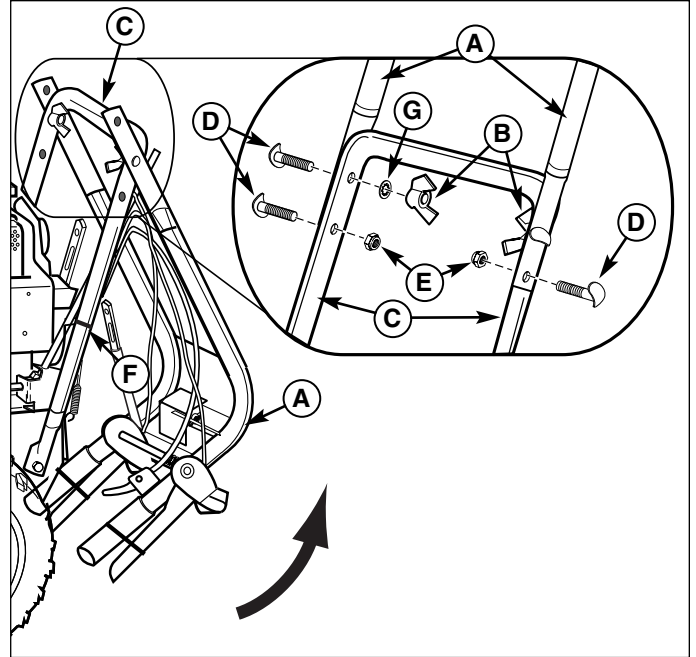

Figure 4. Un Folding Handle Bars (Some Models)
Folding handles (if equipped) are shipped in the down position and need to be rotated up and secured. Cut cable ties (F, Figure 4) that secure control cables to lower handle assembly (C). Be careful not to cut or damage the control cables. Loosen wing nuts (B) and remove any packing materials. Rotate upper handle assembly (A) up. Slide 5/16-18 special bolts (D) through upper handle assembly (A) and lower handle assembly (C). Tighten 5/16-18 locknuts (E) and 5/16-18 special bolts (D). Tighten wingnuts (B), lockwashers (G) and 5/16-18 special bolts (D).